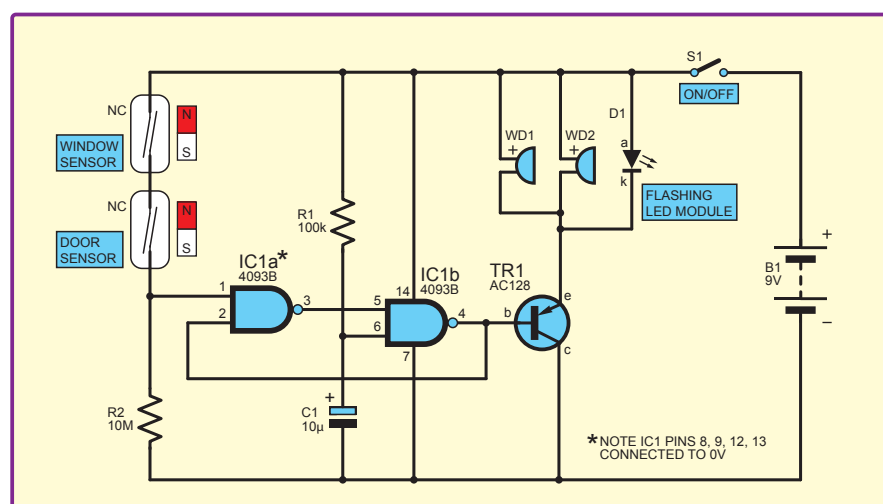

Fig.1. Complete circuit diagram for the Simple Door/Window Alarm
The full circuit diagram for the Simple Door/Window Alarm is shown in Fig.1. It comprises two normally-closed (NC), magnet-actuated, reed switches feeding into IC1a, a 4093B quad two-input NAND Schmitt gate. IC1b switches transistor TR1, which drives the warning buzzers WD1 and WD2.